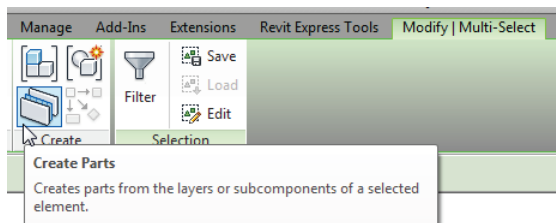

Figure 4
4. Select both items and on the Modify | Multi-Select tab, on the Create panel, click the Create Parts button (see Figure 4).